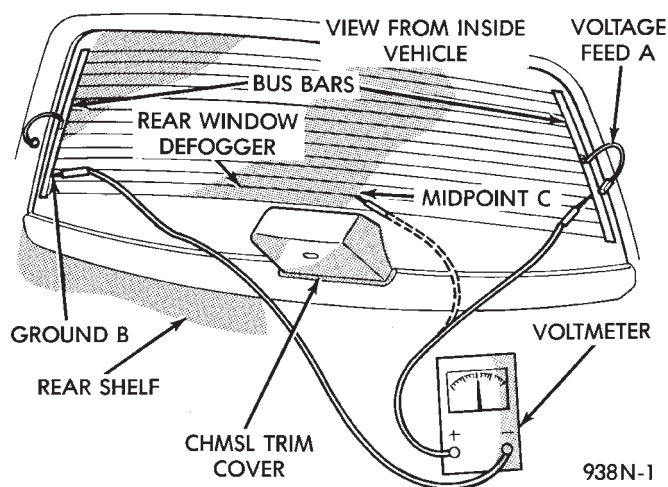
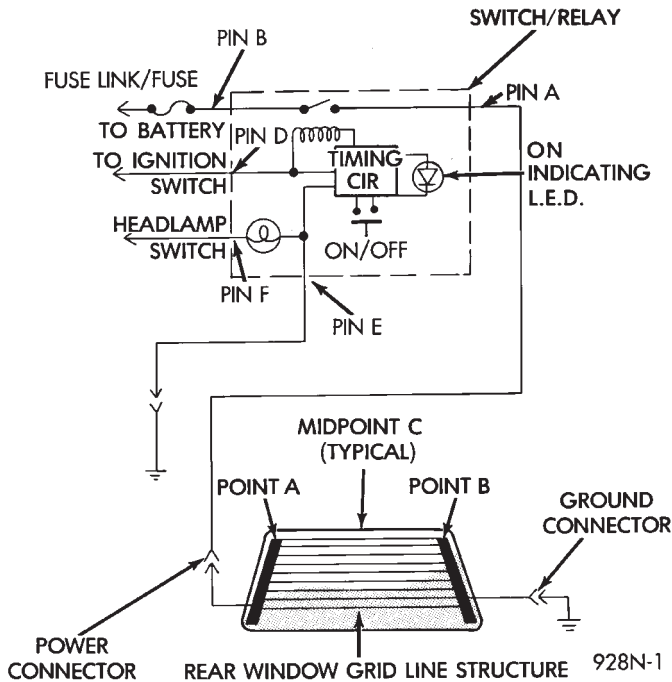

Fig. 4 Grid Line Test
Fig. 5 Systems Electrical Circuit
(3) Using a ammeter on the battery. Turn the Defogger control switch ON, a distinct increase in amperage draw should be noted.
(4) The rear window defogger operation can be checked by feeling the glass. A distinct difference in temperature between the grid lines and adjacent clear glass can be detected in 3 to 4 minutes of operation.
(5) Using a DC voltmeter (Fig. 4) contact terminal B with the negative lead, and terminal A with the positive lead. The voltmeter should read 10-14 volts.
The horizontal grid lines and vertical bus bar lines printed and fired on inside surface of rear window glass (Fig. 4) comprise an electrical parallel circuit. The electrically conductive lines are composed of a silver-ceramic material which when fired on glass becomes bonded to the glass and is highly resistant to abrasion. It is possible, however, that a break may occur in an individual grid line resulting in no current flow through the line. To detect breaks in grid lines the following procedure is required:
(1) Turn ignition ON and turn control switch to ON. The indicator light should come on.
(2) Using a DC voltmeter with 0-15 volt range, contact the negative lead of voltmeter to the ground side. With positive lead of voltmeter, contact the battery feed side (Fig. 4). The voltmeter should read 10-14 volts. A lower voltage reading indicates a poor ground connection.
(3) With negative lead of voltmeter, contact a good body ground point. The voltage reading should not change.
(4) Connect negative lead of voltmeter to the ground side and touch each grid line at Mid-Point with Positive lead. A reading of approximately 6 volts indicates a line is good. A reading of 0 volts indicates a break in line between Mid-Point C and battery feed side. Reading of 10-14 volts indicates a break between Mid-Point C and ground side. Move toward break and voltage will change as soon as break is crossed (Fig. 4) and (Fig. 5).